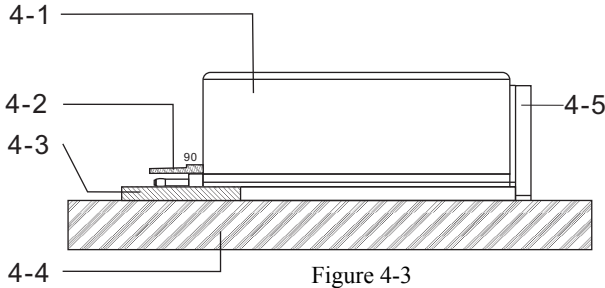

Figure 4-3
- J. Brackets and sensors When the surface of the measured part of the object is smaller than the bottom surface of the instrument, the sensor jacket and bracket can be used to assist support for correct measurement. (As shown in Figure 4-3)